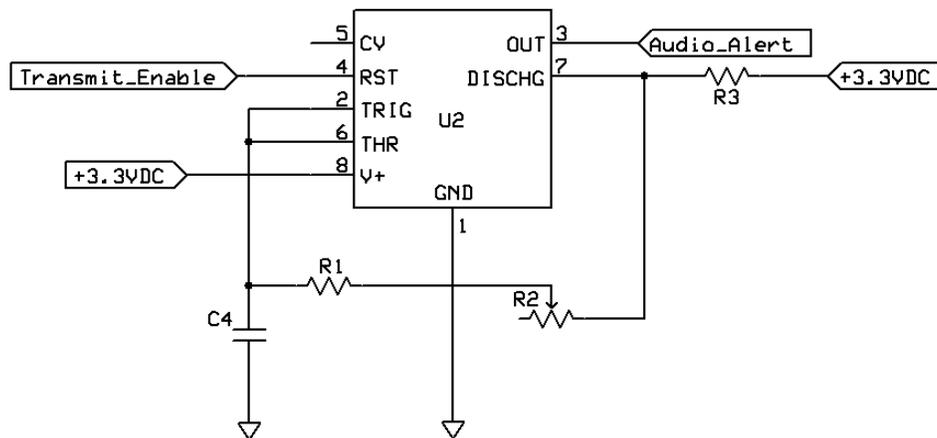

Figure 9
Figure 9 contains the circuitry for the Simple 315MHz Transmitter Module Square Wave Oscillator circuit. U2 is a Renesas/Intersil ICM7555IPAZ general purpose CMOS timer, configured to operate as an astable multivibrator (free running rectangular waveform generator). The active high Transmit_Enable input from pin 1 of J2 is routed to pin 4 of U2, the timer's active-low reset input. A logic high at the Transmit_Enable input allows continuous operation of the square wave oscillator circuitry. A logic low at this input inhibits operation of the U2, holding the timer's Audio_Alert output at a logic low. This reset state of the timer is concurrent with the power-down condition of the TXM-315-LR transmitter IC (U3).
For the square wave oscillator in Figure 9, pulse width (PW) is the time in which the Audio_Alert signal at pin 3 of U2 is at a logic high. Pin 3 holds at a logic high (nearly +3.0VDC) while capacitor C4 charges via resistors R1, R2 and R3. During this charging cycle, these three resistors are effectively in series. When capacitor C4 attains a voltage level of nearly 2/3 the supply voltage (+2.2VDC), the voltage at pin 3 falls low. During the space width (SW) of the Audio_Alert signal, C4 discharges via R1 and R2 into pin 7 of U2. At the instant the voltage over C4 decreases to 1/3 the level of the supply voltage (+1.1VDC), the output at pin 3 returns to nearly +3.0VDC and C4 begins to charge again via R1, R2, and R3. The duration of the pulse width is determined as shown by Equation 1. Here, 20K Ω trimmer resistor R2 is assumed to be set to its midpoint ohmic value of 10K Ω . As indicated in Appendix 1, capacitor C4 equals 0.01 μ F, R1 equals 6.8K Ω , and R3 equals 1K Ω . The following calculations assume the square wave oscillator has been running for several cycles and the lower threshold of capacitor voltage has stabilized at approximately 1/3 of the supply voltage (+1.1VDC).